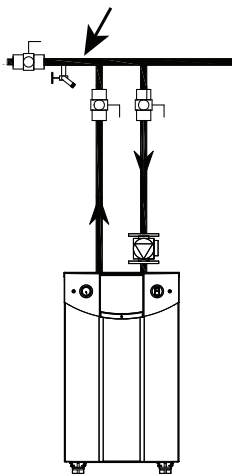

Figure 35. Mounting Location for System Sensor
1. Install the System sensor at the location shown in Figure 35. Connect the System sensor to the System terminals on the controller acting as the Lead Lag Leader (usually the Primary controller on Boiler 1.) Use terminals 3 and 4 on TB6.